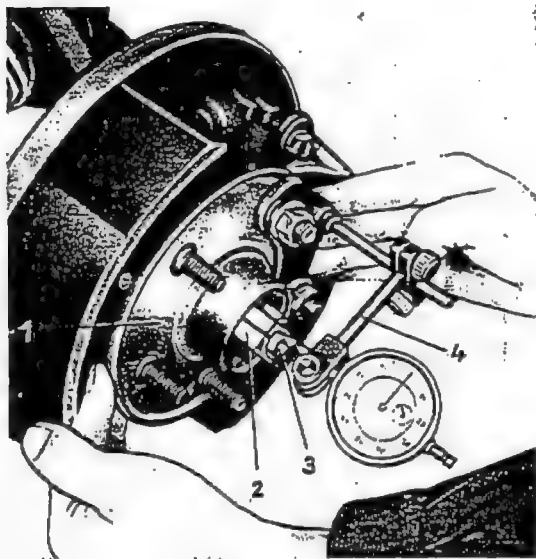

Fig. 33-5/8
24. Attach Tester 136 589 04 21 to the hub and adjust the dial gage to an initial tension of approx. 2 mm (Fig. 33-5/8). Check the end play of the hub by vigorously pulling and pushing the flange. Turn the hub several times before making any measurements.